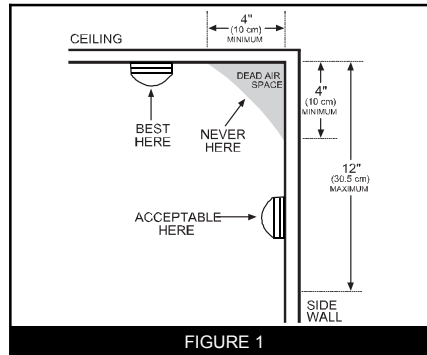

FIGURE 1
- When mounting an alarm on the ceiling, locate it at a minimum of 4" (102 mm) from the side wall (see Figure 1).
- When mounting the alarm on the wall, it is best to use an inside wall with the top edge of the alarm at a minimum of 4" (10 cm) and a maximum of 12" (30.5 cm) below the ceiling, (see Figure 1).